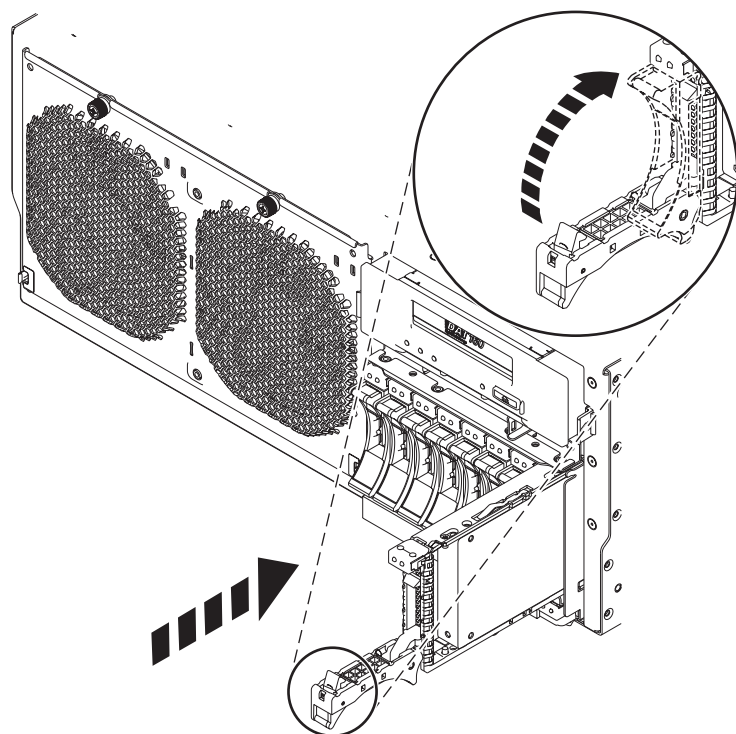

Figure 19. Replacing a disk drive in the system
7. When the identify LED turns on solid, slide the disk drive or solid-state drive all the way into the system or an expansion unit, and push the drive handle **(A)** in until it locks, as shown in Figure 19 on page 35